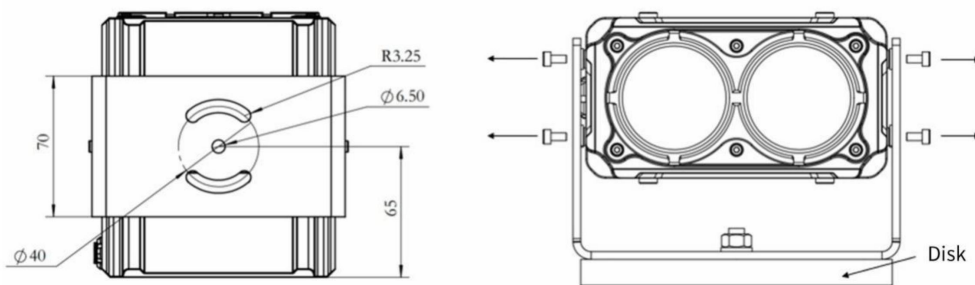

Figure 4 Disk Installation Diagram
Step 1: Customers can purchase a magnetic disk of the appropriate size based on their vehicle's specifications and rigidly connect it to the product through a screw  $\phi 6.5$  in diameter, then attach the magnetic disk to the installation position. Please refer to Figure 4 for the mounting method.